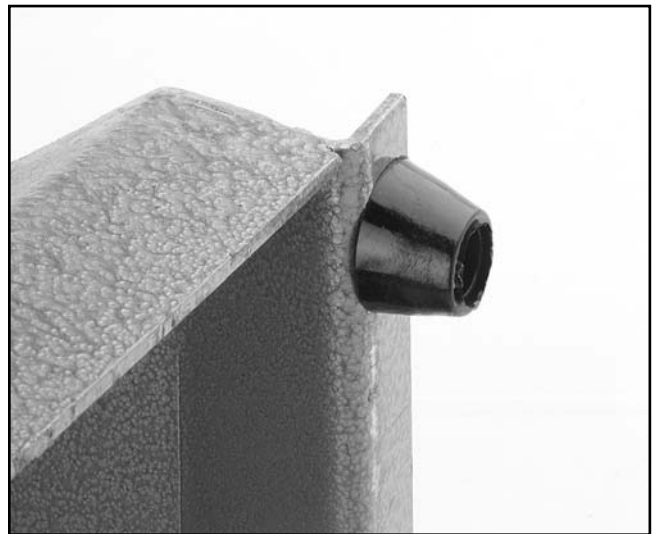

Figure 3. Installing the feet.
2. Install the four feet using the 10-24 x 3/4" Phillips® Head Screws provided. **Figure 3.** Get assistance and upright the machine.